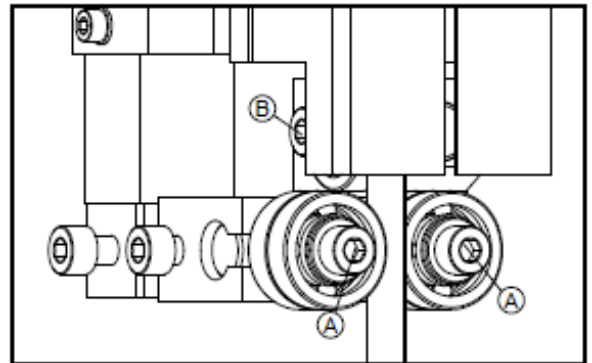

Fig.4.5.1
- In the selected position the fixing screw (D) tighten.
- The lateral roller bearings are adjusted by adjusting the two screws (A) Fig. 4.5.1 that the saw blade has more than 1mm game.
- The rear roller bearing adjusted with the screw (B) Fig.4.5.1 That no more than 1mm distance between roller bearings and saw band is.